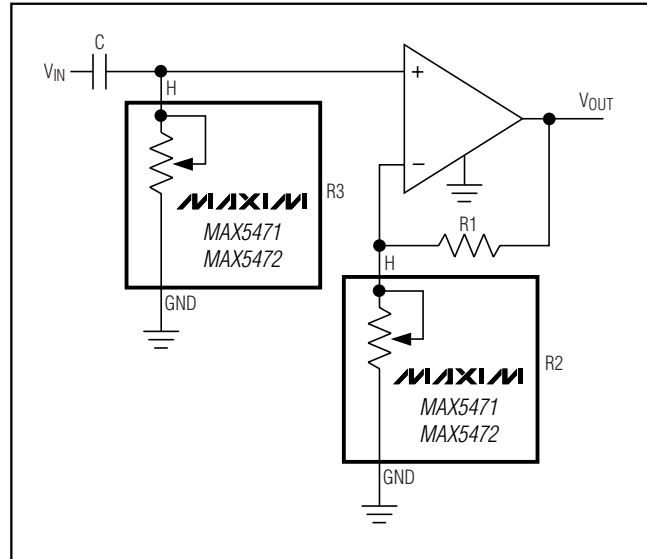

Figure 6. Programmable Filter
Figure 6 shows the configuration of a 1st-order programmable filter. The gain of the filter is adjusted by R2, and the cutoff frequency is adjusted by R3. Use the following equations to calculate the gain (G) and the 3dB cutoff frequency (fc):